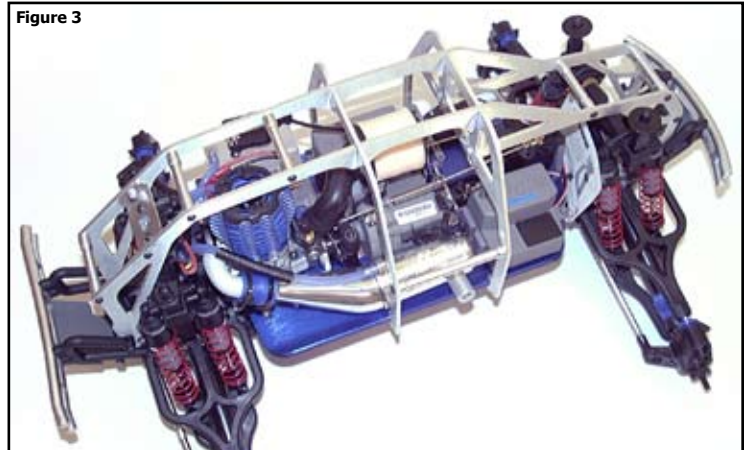

Figure 3
4. Fit the *Cage* to the chassis by sliding the cage rails into position on either side of the bulkheads. Hold the *Hoops* by the *Long Spacers* and spread it until it clips onto the chassis plate. See *Figure 3*.
6. Attach the starter connector to the *Connector Bracket* with (2) *M3x10 BHCS* as shown in *Figure 3*. There will be a gap of about 1/8" between the black jack body and the back of the bracket. **Do not over-tighten the screws.**